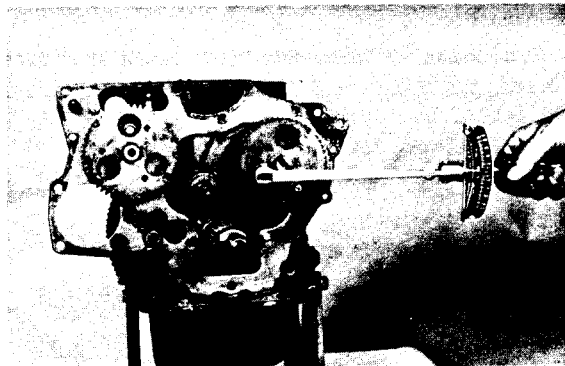

Figure 81
8. Before installing the camshafts and timing gears, turn the crankshaft to set the No. 1 cylinder to top dead center (TDC) of the compression stroke. Reverse steps 1 - 5 to install the camshafts and timing gears (Fig. 81).